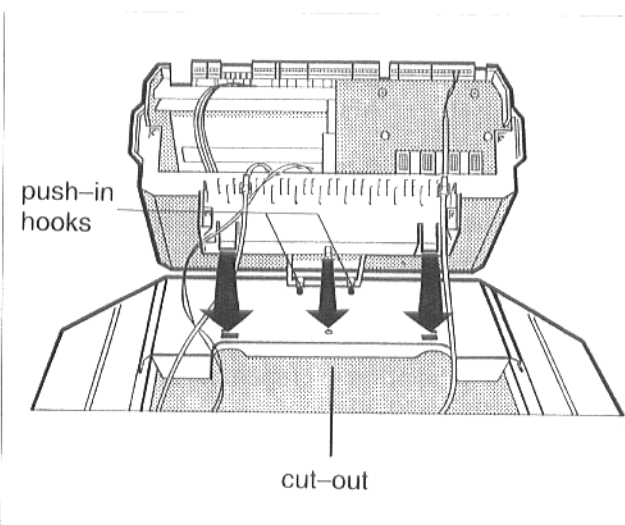

Fig. 13
- Place the control panel on the front jacket in such a way that the push-in hooks on the underside of the control panel are inserted in the oval drill holes (Fig. 13).
Lay the capillary tube of the temperature sensors and the boiler water thermometer lead in the cut-out in the front boiler jacket (Fig. 13).
- Tilt the control panel forward and push down until both elastic hooks click into the rectangular cut-outs at the rear (Fig. 13).